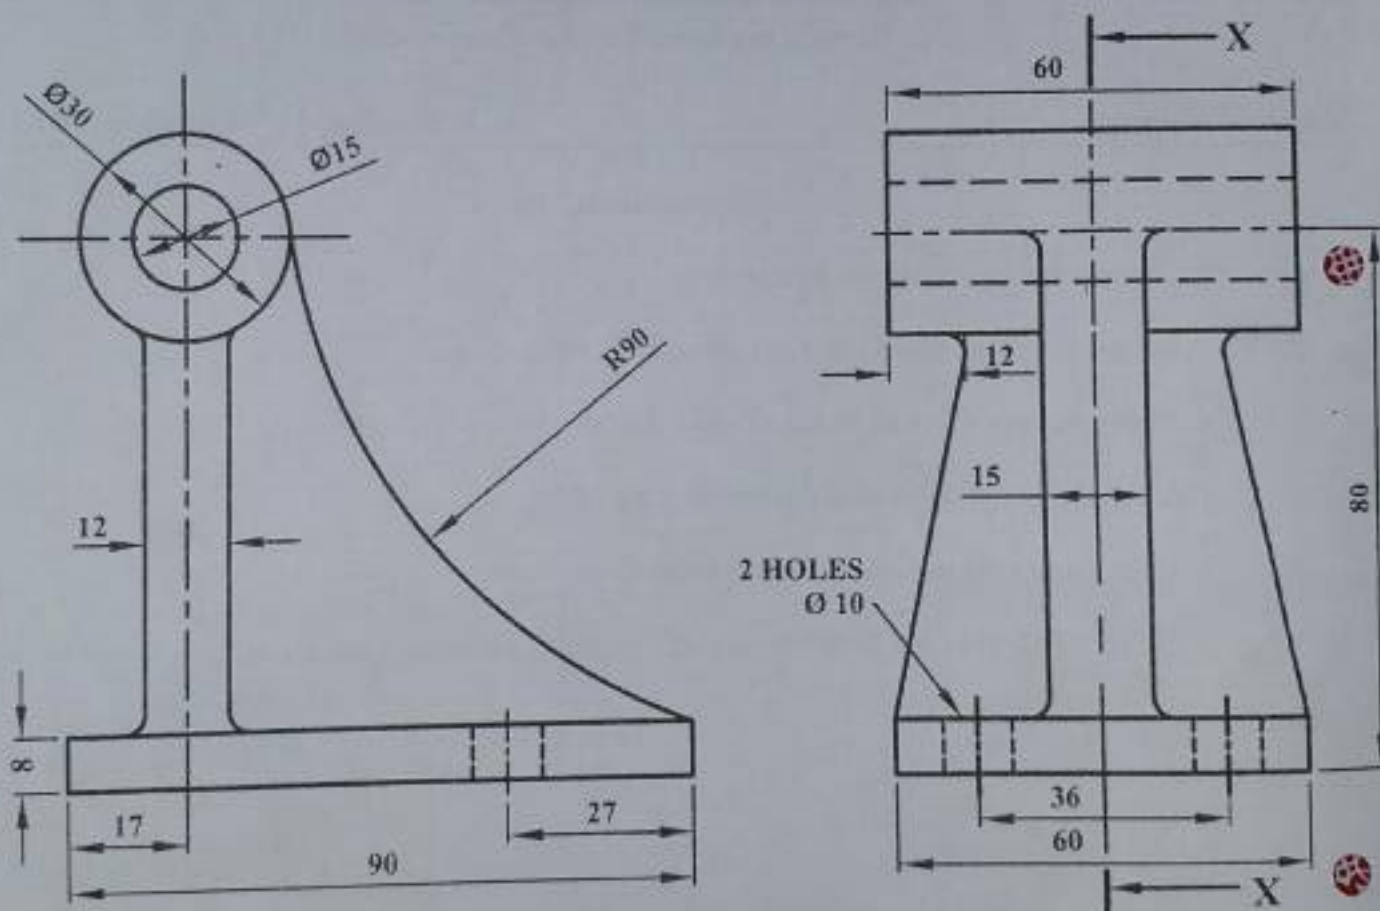

Figure 1
1. Two views of a shaft support are shown in third angle in Figure 1; draw in full size the following views.